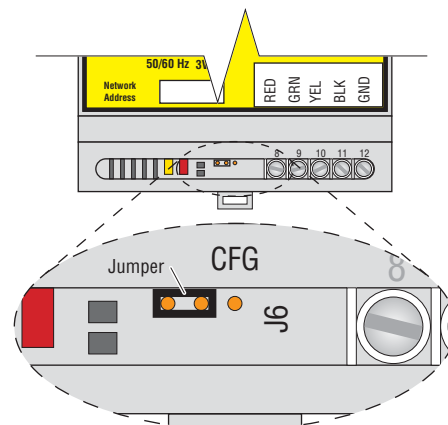

Figure 7b. Configuration Jumper Set for Normal Operation
- Place the configuration jumper in the normal operating position, as shown in Figure 7b.